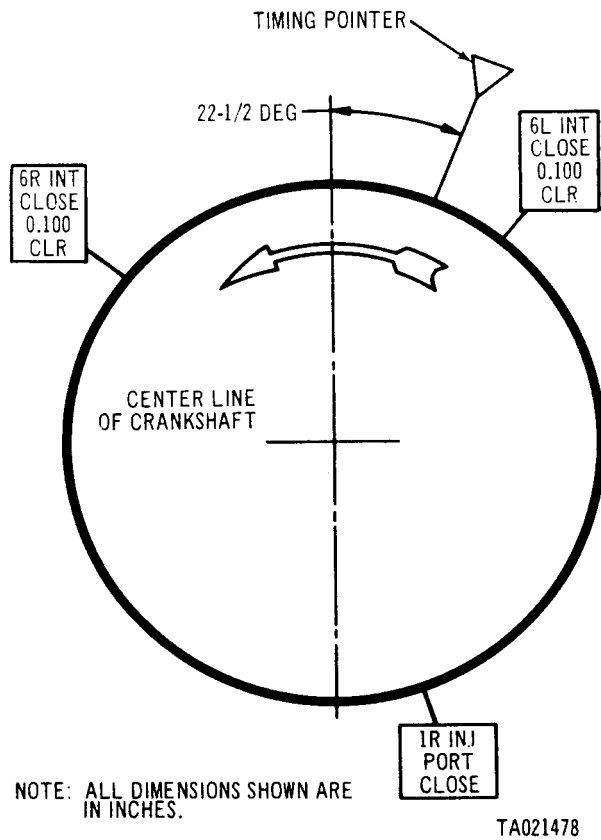

Figure 2-155. Flywheel timing mark locations.
a. General. Valve timing is checked with cylinder No. 6R and 6L intake valve clearance set at 0.100 inch. The flywheel is stamped (fig. 2-155) with timing marks "6R INT CLOSE 0.100 CLR" for timing the right camshaft with the crankshaft, and makred "6L INT CLOSE 0.100 CLR" for timing the left camshaft with the crankshaft. For instructional purposes the timing of the right camshaft is described. Right and left camshaft timing is identical.